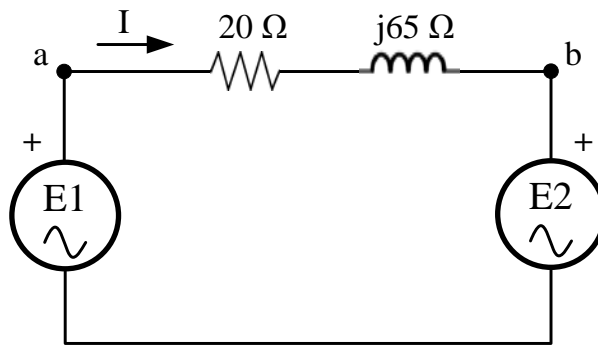

Figure 1.1
1. (a) The circuit in Figure 1.1 is connected to two A.C. sources, **E1** and **E2** with the following voltages: